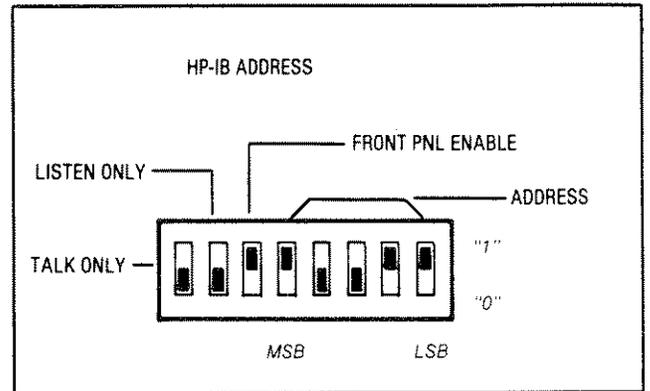

Figure 2-3. HP-IB Address Switch Shown as Set by the Factory
e. Set the switches to the desired HP-IB address (in binary) and the Talk Only or Listen Only condition. The switch is illustrated in Figure 2-3. If both the Talk Only and the Listen Only switches are set to "1", the Talk Only setting overrides the Listen Only setting.